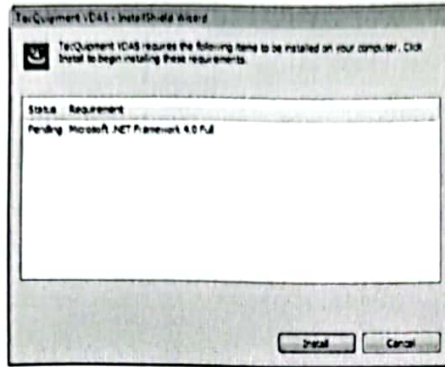

Figure 12 Microsoft .NET Framework Setup
5. If the Microsoft .NET Framework has not previously been installed on the PC, then the Dialogue Box will appear as shown in Figure 12. The .NET Framework must be installed in order to run the TecQuipment software. The .NET Framework may take several minutes to install and will guide you through its installation.